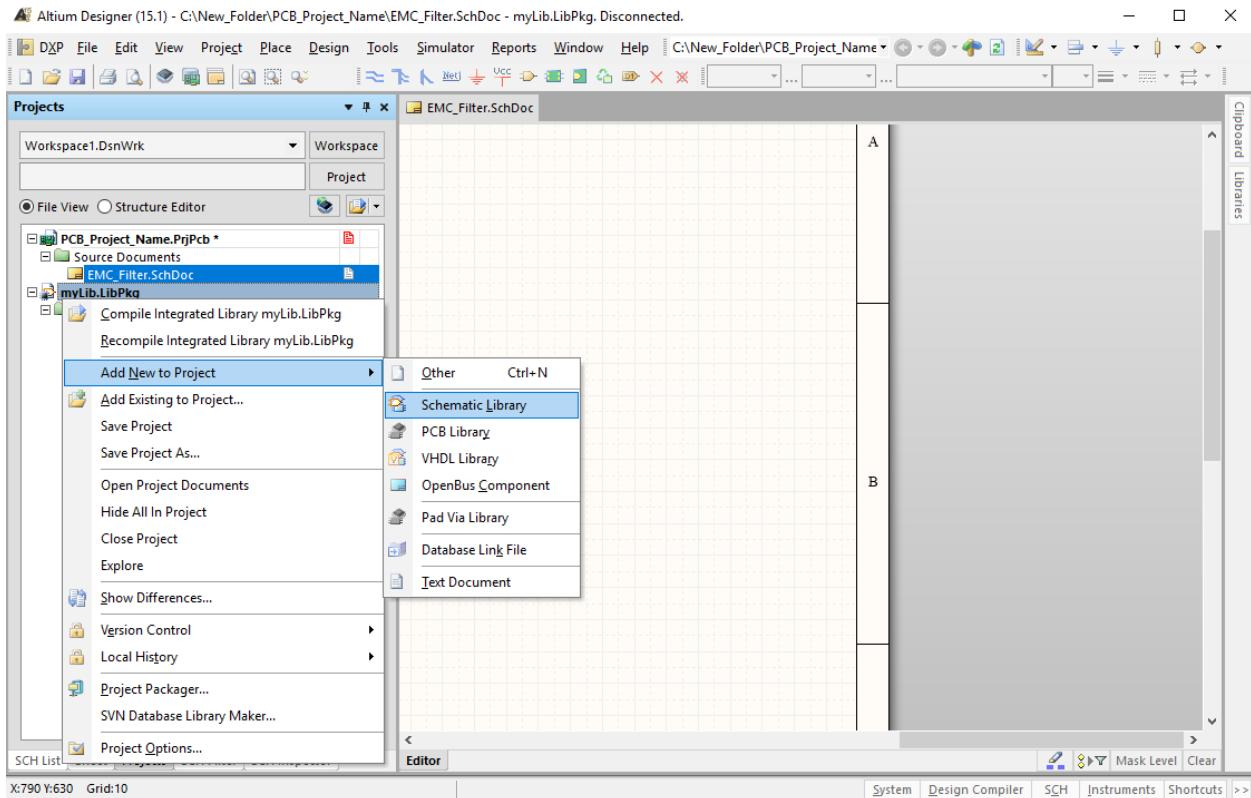
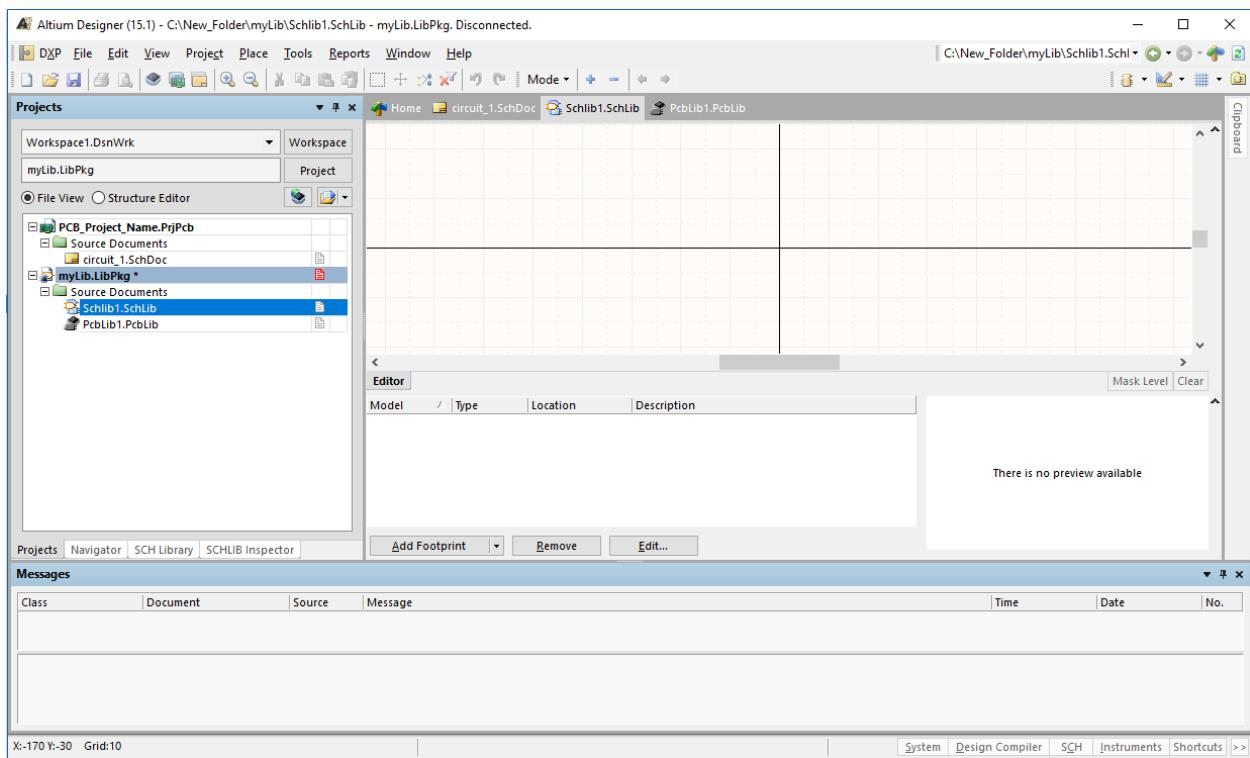

Figure 24: Altium add a SCH Library and a PCB Library document.
Figure 25: Altium SCH Library and PCB Library.
15. After the Integrated Library is generated it has to be populated with a SCH Library Document and a PCB Library document. Therefor, right click on the Integrated Library Project and chose Add to New Project... → Schematic Library, as shown in Figure 24. And repeat this step to add the PCB Library. By double clicking on the document you can open it, as shown in Figure 25 which shows the added PCB and schematic library as Source Documents of the Integrated Library named myLib.